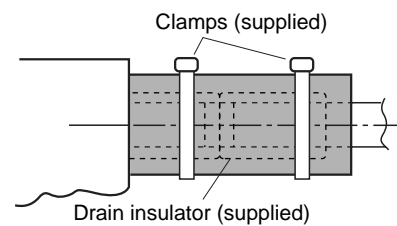

Fig. 3-80
- (2) After connecting the drain piping securely, wrap the supplied packing and drain pipe insulator around the pipe, then secure it with the supplied clamps. (Fig. 3-80)